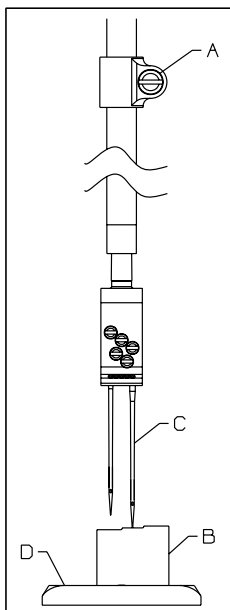

FIG. 3
Position the needle bar at its highest point of travel. Loosen needle bar clamp screw (A, FIG.3) & use the specified needle bar height gauge (B) to achieve the desired height dimension from the fifth (lowest) needle (C) to the throat plate surface (D). Tighten clamp screw (A) and recheck setting. Care must be taken not to disturb the needle head alignment while making the adjustment. Add the remaining needles.